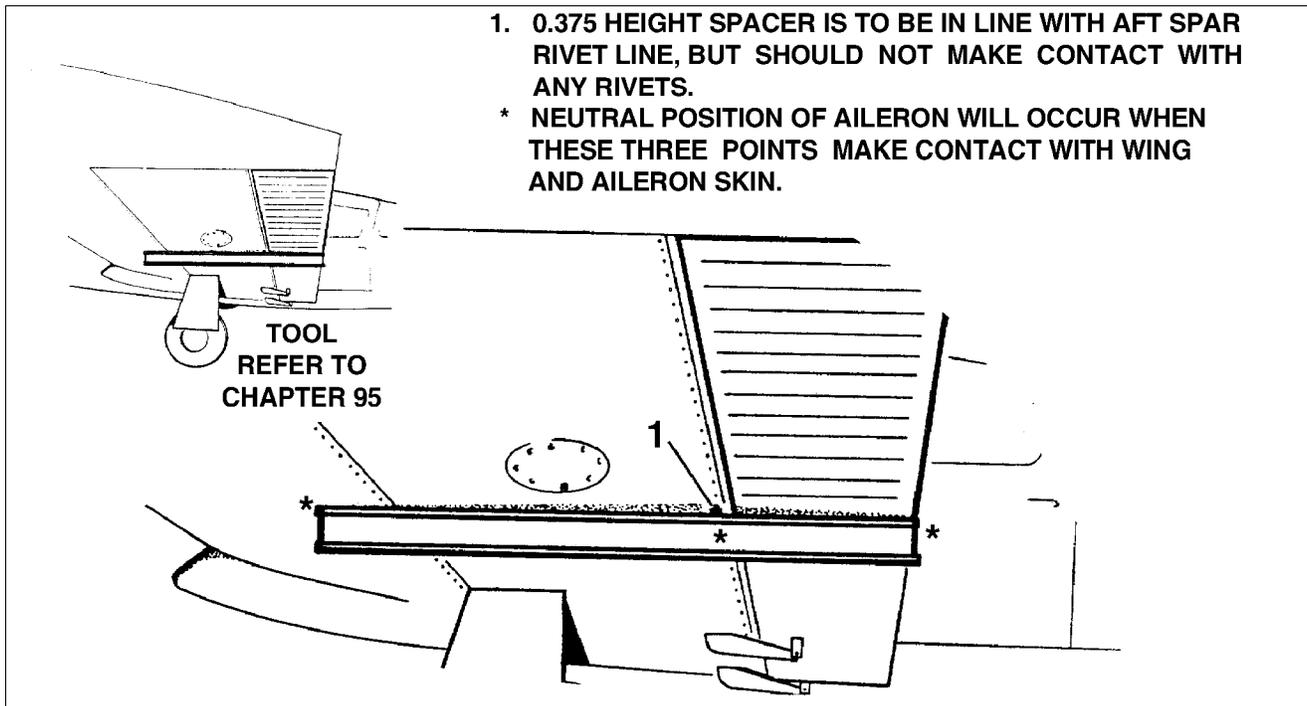

Figure 27-11. Aileron Rigging
- (1) Ensure that bellcrank rigging tool fits snug between bellcrank and rib.
- (2) Place an aileron rigging tool, as shown in Figure 27-11, against underside of the wing and aileron as close as possible to inboard end of aileron without contacting any rivets. Tool must be positioned parallel with wing ribs, with aft end of the tool even with trailing edge of the aileron. (Tool may be fabricated from dimensions given in Chapter 95.)